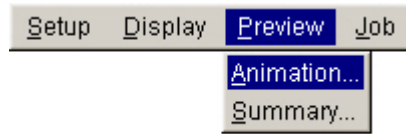

Figure 1.27 Animation menu
1. Click **Preview→Animation** button from the menu bar, as illustrated in Figure 1.27.